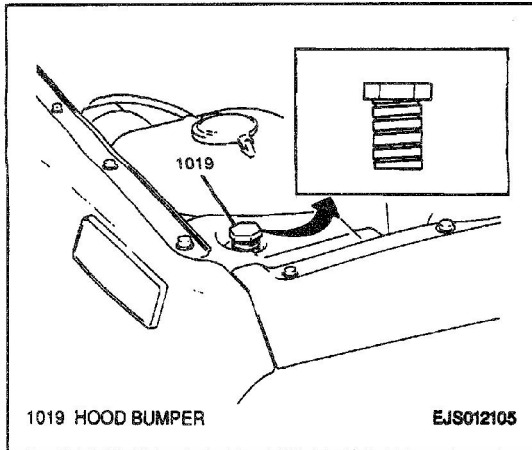

Figure 12—Hood Bumper
- Turn the rubber bumpers for vertical alignment (Figure 12). Refer to SECTION 10-1 for hood flushness specifications.